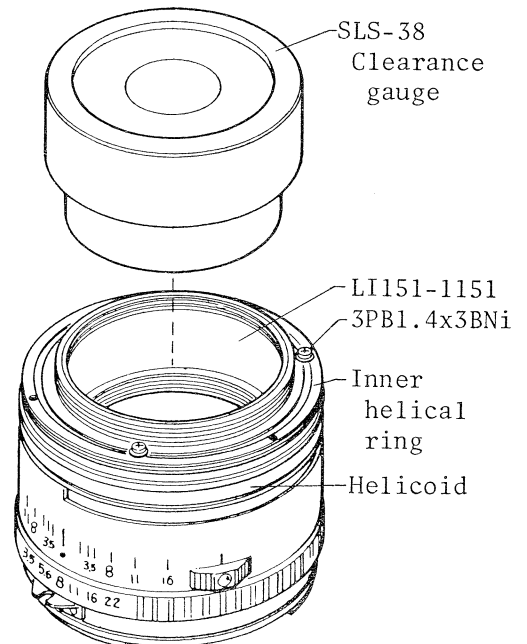

Fig.18
- 2) Loosen three 3PB1.4x3BNi screws for fixing aperture barrel as shown in Fig. 18.
- 6) Put the SLS-38 clearance gauge into LI151-1151 middle tube as shown in Fig. 18.